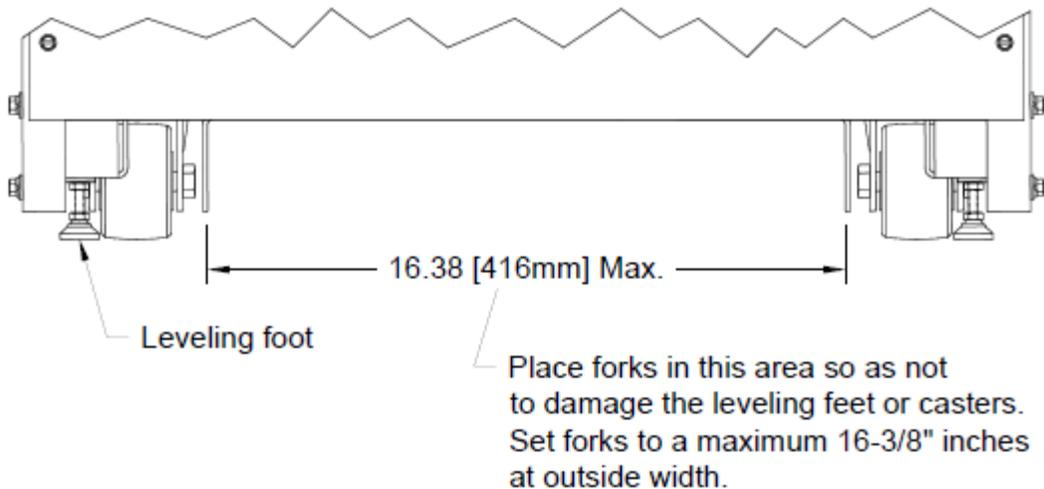
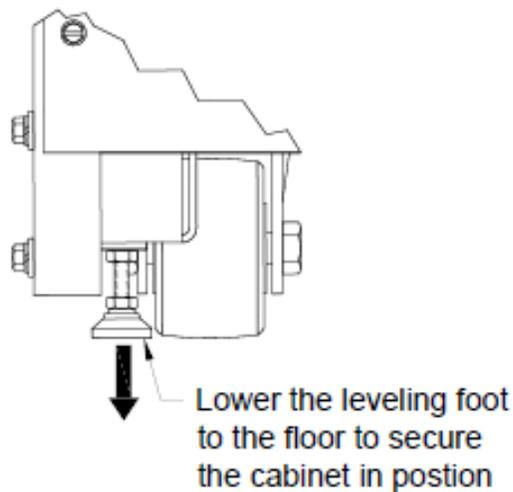
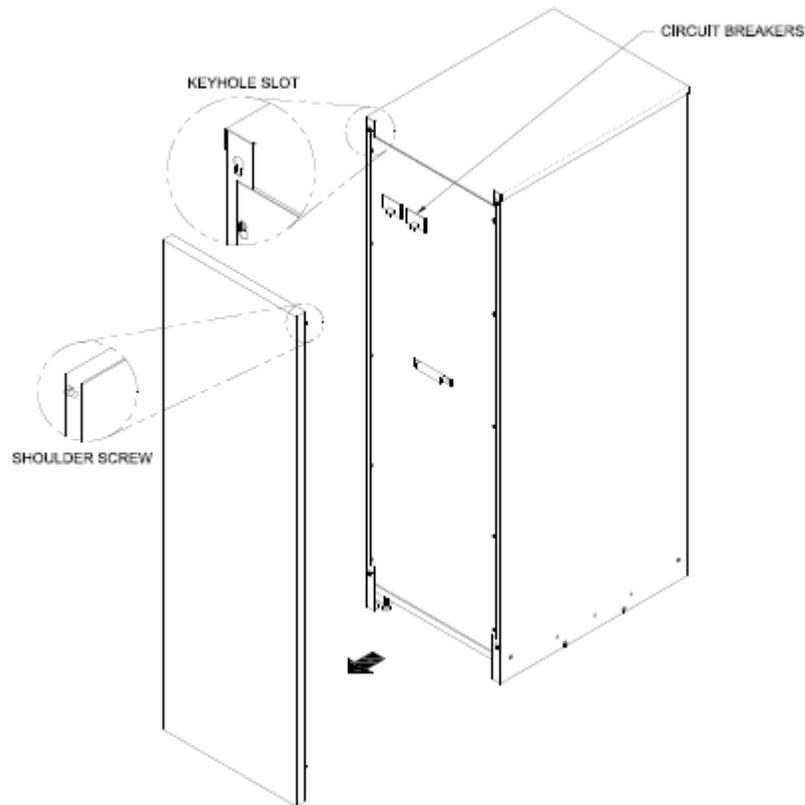
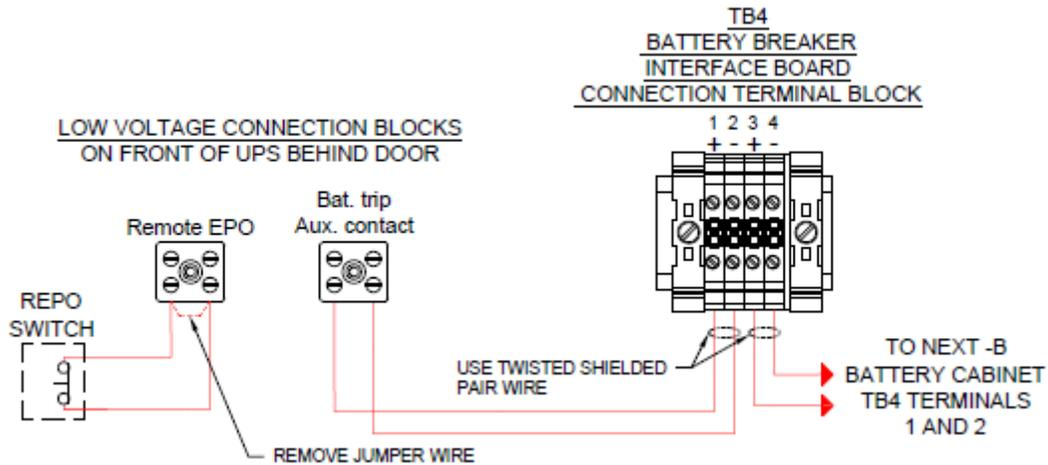

Figure 4 - Lifting Fork Area
Figure 5 – Leveling Foot Being Adjusted Down To Floor
Figure 6 - Removing the UPS Front Panel
Figure 10 – Communication Interface Board Connections
6. Remove the front cover (see **Figure 6**) before inserting the lifting forks.
7. Ensure that the four (4) leveling feet are raised so that they will not touch the floor when the cabinet is placed on the floor.
8. Lift the cabinet with a forklift from the rear of the unit, one to two inches (1"-2" [2.5-5cm]) above the pallet (see **Figure 4**).
Once the cabinet has been rolled into position, remove the front panel to access the front leveling feet by pulling the panel outward at the bottom of the unit until it unsnaps and then lift up and off the cabinet (see **Figure 6**). Adjust the leveling feet as shown in **Figure 5**.
To trip the battery circuit breakers via the REPO of the UPS, connect the battery cabinet interface connector (TB4) to the UPS per **Figure 10**. If any additional battery cabinets are –N versions, no other connections are needed. If a Dual-Lite maintenance bypass switch cabinet is included, wire those connections instead per **Figure 5** of the Maintenance Bypass Switch User's Manual.